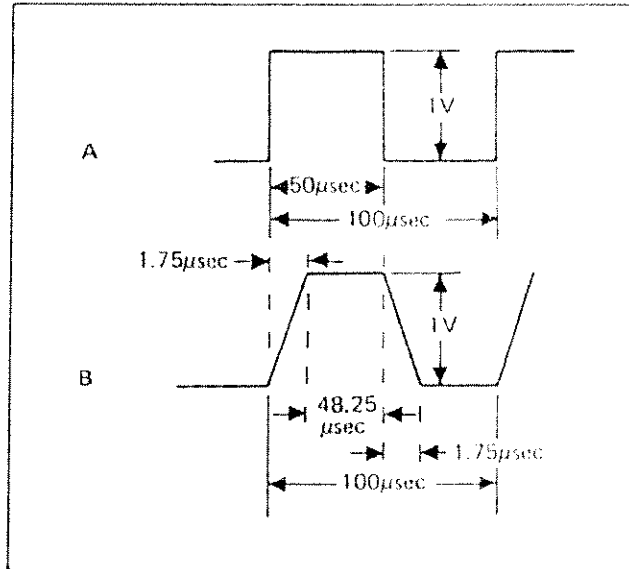

Figure 2-8. Rise Time/Fall Time Example
72. For our example let's use a 10 kHz pulse train of 1 μsec pulses with a peak value of 1V. Ideally, the pulses would have a zero rise time as shown in Figure 2-8, Part
2-73. When the maximum distortion in rise time of 1.75 μsec is assumed, the signal becomes the isosceles trapezoid waveform shown in Figure 2-8, Part B. In this case,